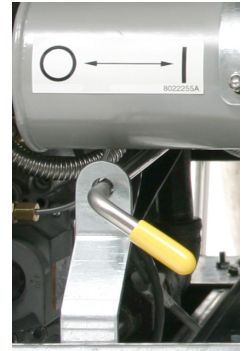

Figure 29
38. While the heat LED is on and burner is lit, turn on the filter pump by turning the filter handle associated with that vat (see Figure 29).